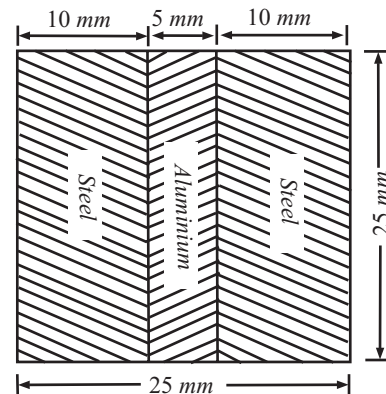

Fig 14.45
Q.65: A flat bar of aluminium alloy 25 mm wide and 5 mm thick is placed between two steel bars each 25 mm wide and 10 mm thick to form a composite bar 25 mm × 25 mm as shown in Fig. 14.45. The three bars are fastened together at their ends when the temperature is 15°C. Find the stress in each of the material when the temperature of the whole assembly is raised to 55°C. If at the new temperature a compressive load of 30kN is applied to the composite bar what are the final stresses in steel and alloy ?
Sol.: Refer Fig. 14.45.